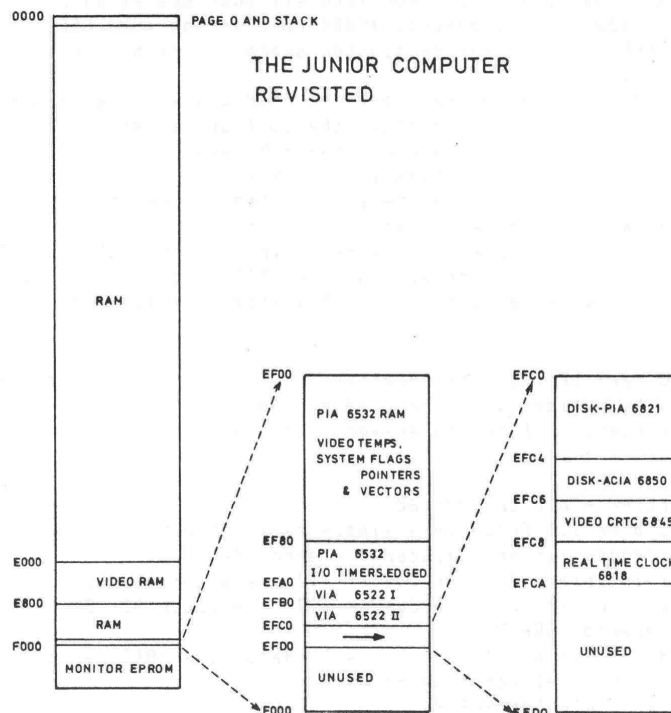
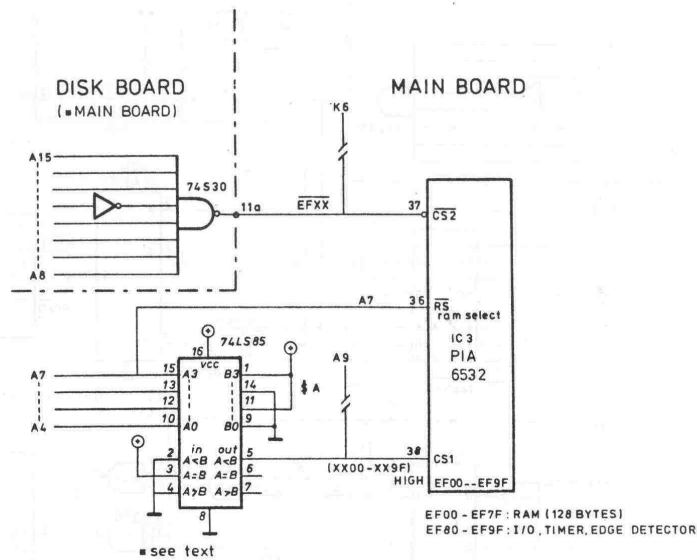

figure.2 - a new memory map for the Junior: a maximum clear-up of the user RAM, and a condensed I/O page.
figure.3 - a 'LS85 plus a 'S30 re-address the PIA, from a 512 wide to a 32 tiny address.
But if you really want to clean the RAM up to \$DFFF, the solutions follow. See fig.2 for the memory map we're going to get.
A - MODIFICATIONS ON THE MAIN BOARD (ref.1, fig.2); fig.3.